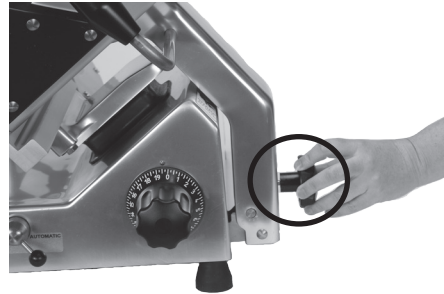

Figure 14-2
4. Tighten food chute release knob to secure food chute to slicer (Fig. 14-2).